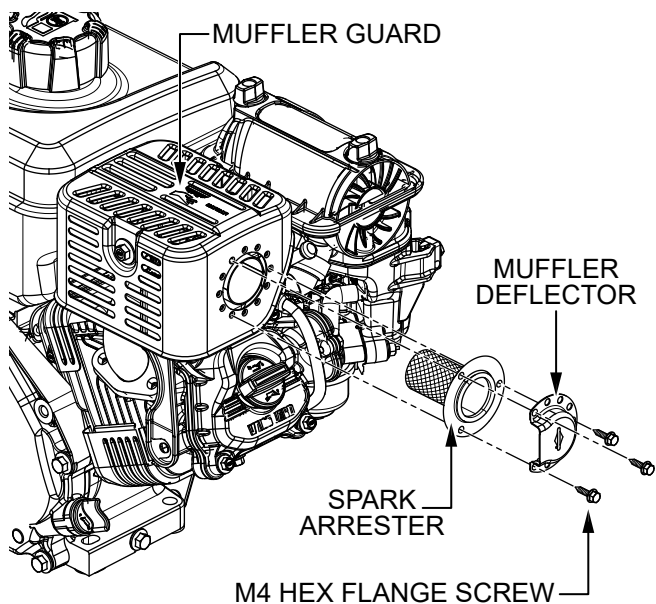

Figure 32. Spark Arrester Removal
2. Remove and retain the three M4 hex flange screws securing the muffler deflector and spark arrester to the muffler guard (Figure 32).